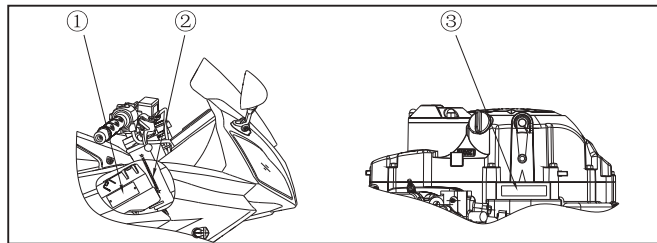

Figure 4 Vehicle identification number (VIN) , name plate and engine serial number
4. Locations of the vehicle identification number (VIN) , name plate and engine serial number, (Figure 4)